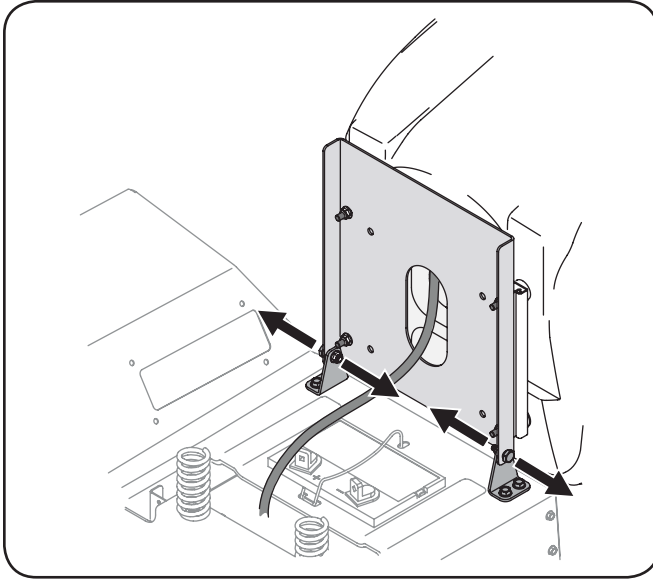

Figure 3-3
2. Remove the two shoulder bolts and lock nuts in the seat pan as shown in Figure 3-3.